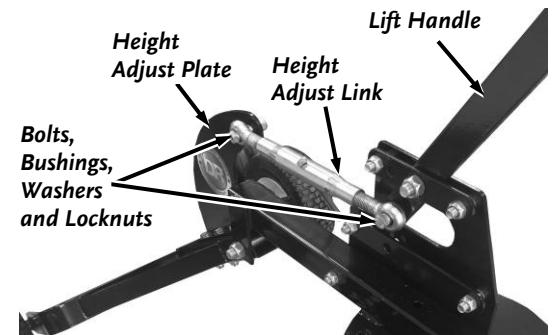

Figure 6
- Attach one side of the Height Adjust link to the Lift Handle and attach the other side to the Height Adjustment Plate using the two Hex Bolts, two Bushings, two Small Washers, and two Hex Lock Nuts (**Figure 6**). Tighten the Hardware using an 18mm Wrench on the bolt and a 19mm Wrench on the Locknut.